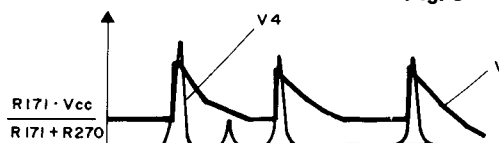

Fig. 4
- 5) By amplifying this via A3, the waveform shown as V4 in Fig. 4 is obtained: Vc is obtained by peak-holding this.